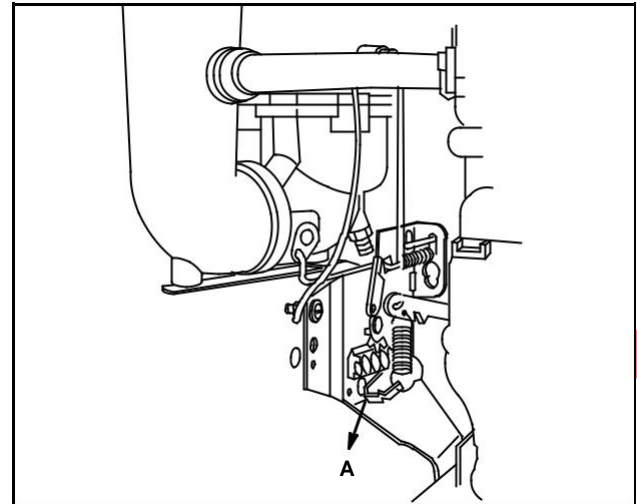

Fig. 65
Adjust Choke-A-Matic as shown (A), to increase speed, Fig. 65.